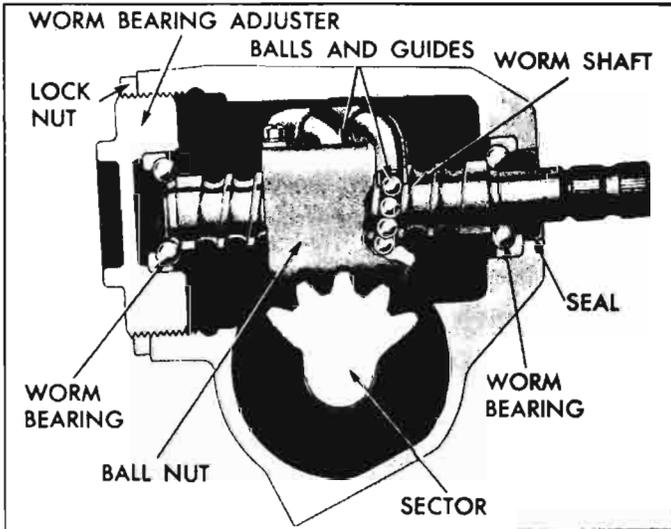

Fig. 4-1—Steering Gear Worm and Ball Nut Circuits
The steering gear used in all Corvaair 500, 700 and 900 models is of the recirculating ball type with a ratio of 8:1. Ease of handling is assured by transmitting forces from the worm to the sector gear through ball bearings (fig. 4-1). Overall steering ratio is 23.5 to 1.
4. To adjust the worm bearings (see fig. 4-1): loosen the worm bearing adjuster lock nut and turn worm bearing adjuster down until there is no perceptible end play in worm. Check the pull at the torque wrench, readjusting the adjuster nut as necessary to obtain proper pull. Tighten the lock nut and recheck pull. If the gear feels "lumpy" after worm bearing adjustment, the bearings are probably damaged and the gear should be removed and disassembled for replacement of the damaged parts. See "Service Operations."